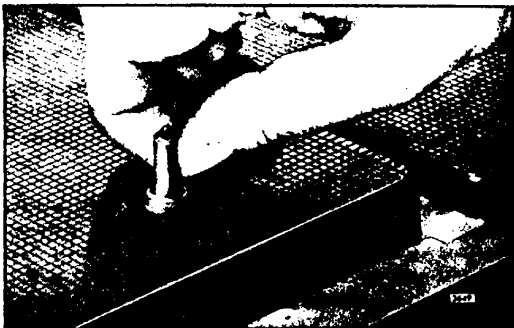

Fig. 33. - Lapping Spray Tip on Lapping Blocks
3. Place the part to be lapped flat on the block as shown in Fig. 33. and, using a figure eight motion, move it back and forth across the block. Do not press on the part, but use just enough pressure to keep the part flat on the block. It is important that the part be kept flat on the block at all times.